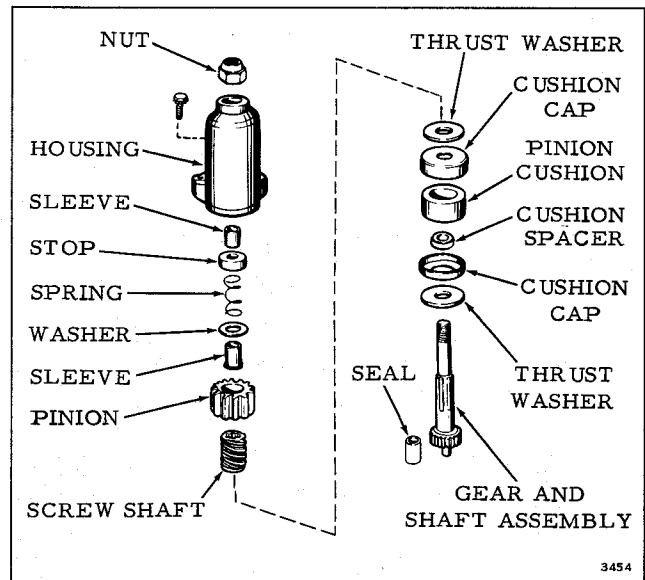

Figure 7-8. Starter Drive Assembly
- c. To disassemble starter drive, remove nut at top of drive housing. Note the relative positions of the parts while disassembling to aid in reassembly later. See Figure 7-8.